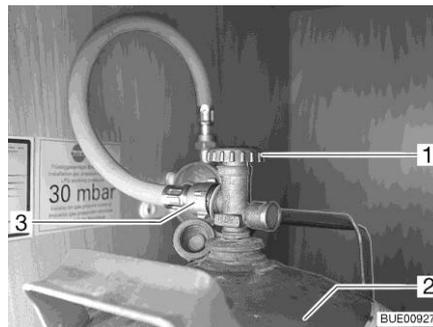

Fig. 176 Gas bottle compartment
- Close the regulator tap (Fig. 176,1) on the gas bottle (Fig. 176,2). Pay attention to the direction of the arrow.
- Unscrew the gas tube (Fig. 176,3) from the gas bottle.